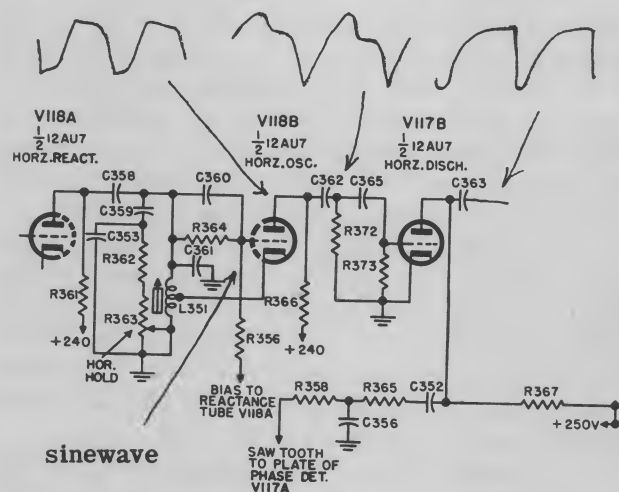

Fig. 3-14. Hartley oscillator: GE 21T1.
3. **HARTLEY OSCILLATOR IN CONJUNCTION WITH A DISCHARGE TUBE.** Another common method of producing the horizontal drive voltage is by the use of a sine-wave oscillator and a discharge tube. The circuit in Fig. 3-14 shows a typical Hartley oscillator producing a sine wave at the grid of the oscillator tube. The frequency of the oscillator can be set manually by means of the tuning slug in the oscillator coil. A reactance tube coupled across the oscillator tank circuit maintains the proper frequency by electronically changing the effective reactance in the circuit. The oscillations produced on the grid bias the tube so that a distorted sine wave results at the plate. This is differentiated by C362 and R372, and the peaked pulse thus formed triggers the discharge tube. The charge-discharge network (C352, R365, and C356 in the plate circuit) creates the modified sawtooth wave, which is then coupled to the output tube.
a. *Identification.* This circuit stands out from the other horizontal oscillators because of the necessity of a discharge tube. A six-terminal (or greater) oscillator coil which incorporates a phasing adjustment may be used as in the RCA 630-type Synchrolock circuit, or a simple three-terminal coil as shown in Fig. 3-14 may be used. The oscillator tube may be a triode or a pentode. It is usual practice to wire the oscillator cathode to a tap or separate winding on the coil.
(Fig. 3-14) and placed across the tank circuit. A small d-c voltage at the grid can be used to control the tube effective resistance and thus change the oscillator frequency.
c. *Output Voltage.* The horizontal discharge tube delivers the voltage waveform shown in Fig. 3-14, which is the necessary drive for the output tube.